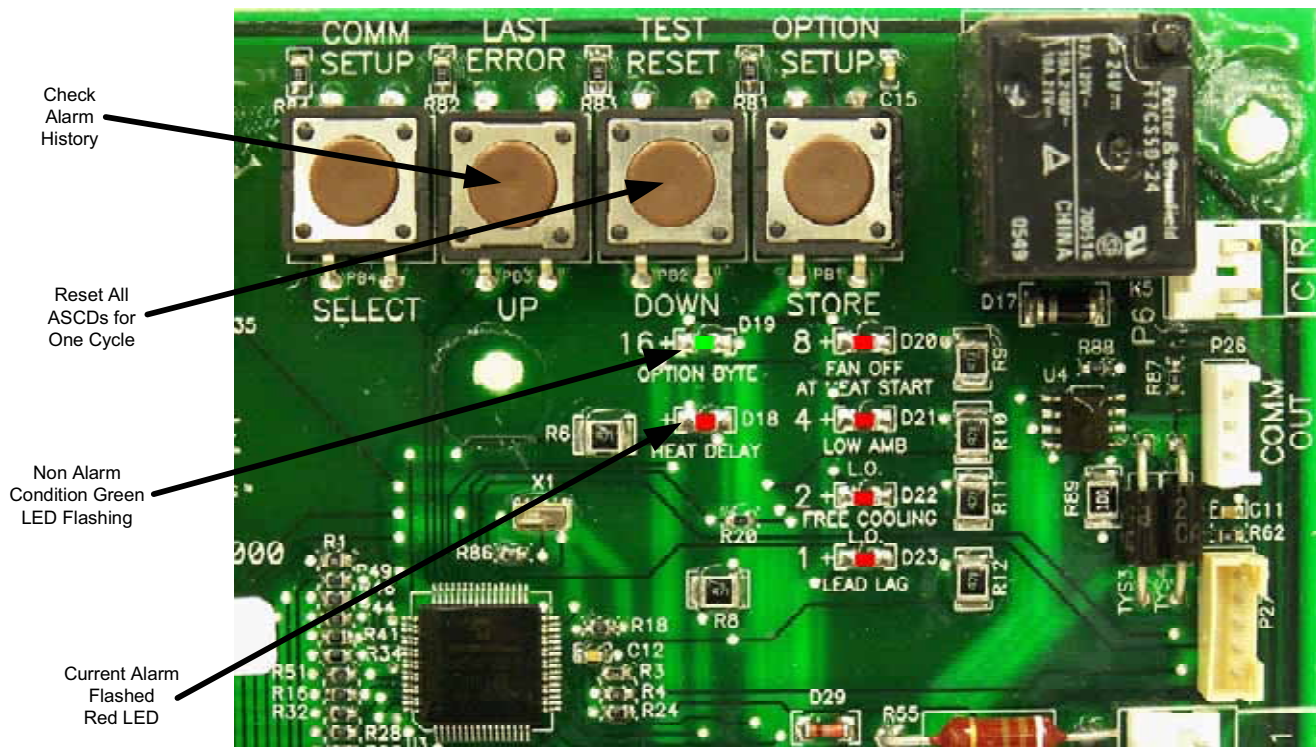

FIGURE 30: UNIT CONTROL BOARD
Alarm condition codes are flashed on the UCB lower left Red LED, See Figure 30. While the alarm code is being flashed, it will also be shown by the other LEDs: lit continuously while the alarm is being flashed. The total of the continuously lit LEDs equates to the number of flashes, and is shown in the table. Pressing and releasing the LAST ERROR button on the UCB can check the alarm history. The UCB will cycle through the last five (5) alarms, most recent to oldest, separating each alarm flash code by approximately 2 seconds. In all cases, a flashing Green LED will be used to indicate non-alarm condition.